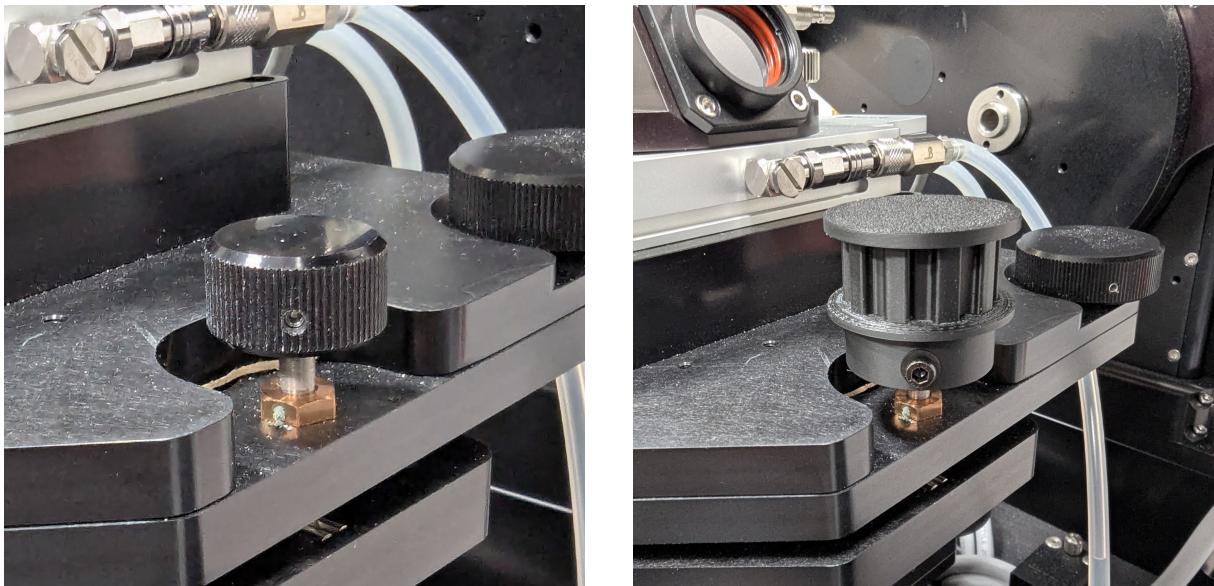

Figure 6: Adjustment Knob Installation
7. Place the adjustment knob caps over the adjustment knobs and secure them with an M3 screw. Ensure correct placement—the screws should align with the hole on the side of the adjustment knob. See Figure 6.